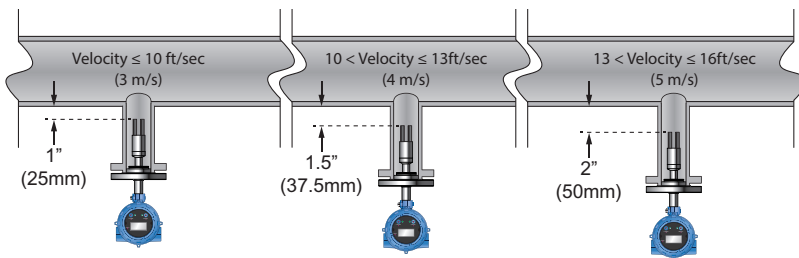

Figure 1.
- With Toolkit sizing, the distance to recess the tines from the inner tube wall will be defined (Figure 1)